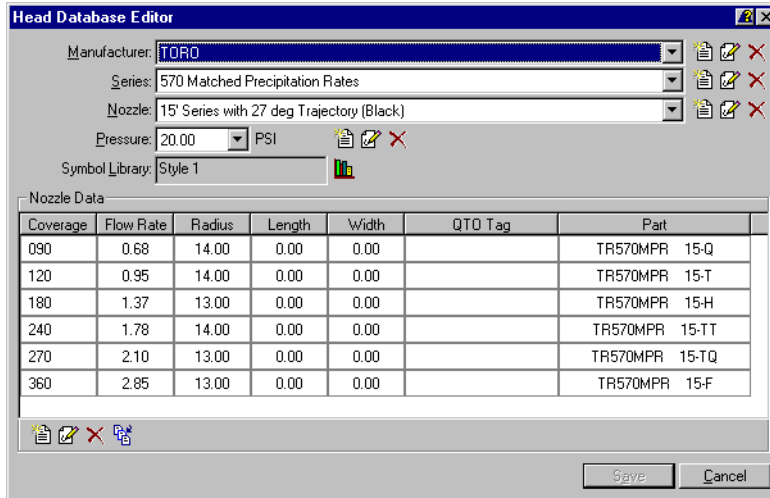

Figure 2-33 Head Database Editor Dialog Box
When you click on the Symbols Library Manager icon in the Head Database Editor dialog box (Figure 2-33 on page 33), the Head Symbols Library dialog box displays.
The Head Database Editor dialog box (Figure 2-33 on page 33) displays.
2. **Pick Toro from the Manufacturer drop list in the Head Database Editor dialog box (Figure 2-33 on page 33).**